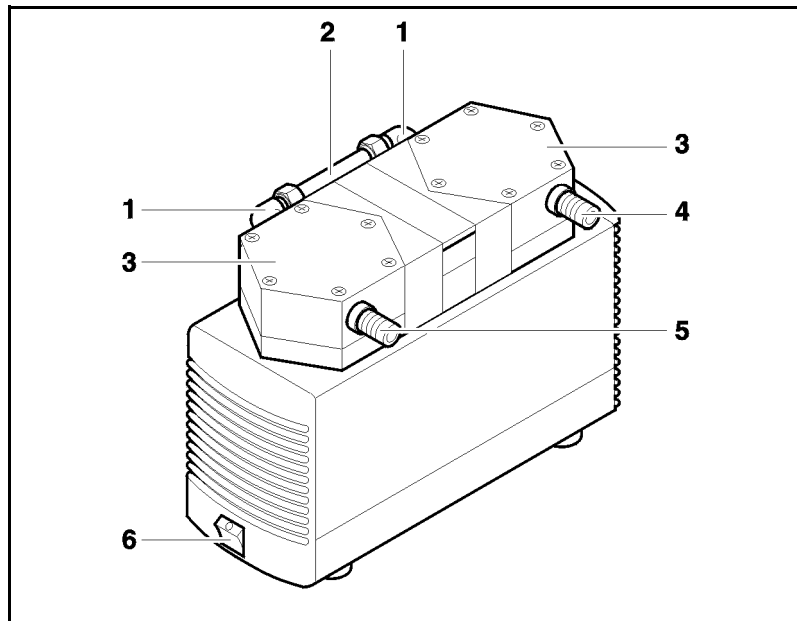

Fig. 2: Diaphragm pump (shown: pump N 820.3 AT.18, symbolic)
- ➔ Switch on pump with mains switch (see fig. 2).
- ➔ Switch off pump with mains switch (see fig. 2).